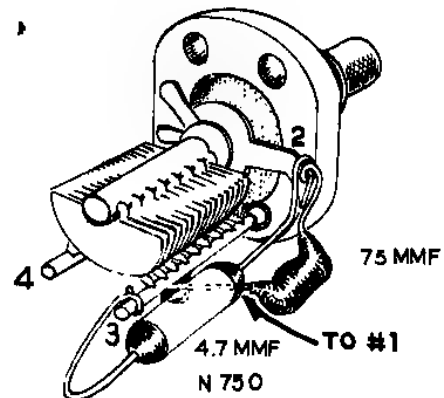

Figure 2B
- (✓) Locate the three small 15 mmf midget variable capacitors. On one capacitor connect a 75 mmf NPO disc capacitor between the stator solder lug 1 on the ceramic end of the capacitor (S1) and the rotor solder lug 2 (NS). See Figure 2B.
- (✓) On the remaining 15 mmf variable capacitor, the one with the 75 mmf capacitor previously installed, connect a 4.7 mmf N750 capacitor between the projecting end of the stator bar 3 (S1) and the rotor lug 2 (NS). Notice that about 1/4" extra lead length is used on this N750 capacitor compared to the two just mounted. See Figure 2B.